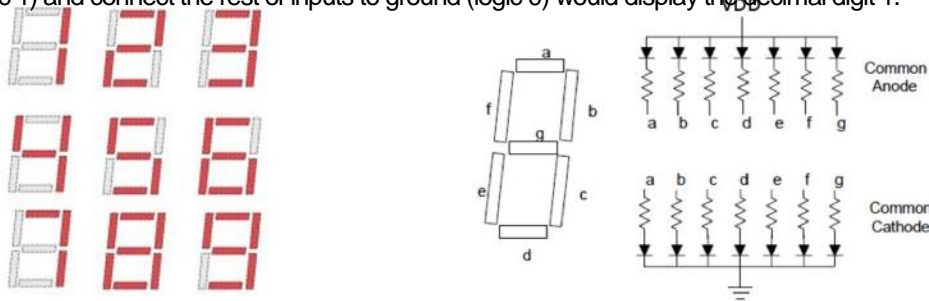

Figure 1
A seven-segment display displays decimal numbers. It consists of seven Light Emitting Diodes (LEDs), which are arranged to form different digits as shown in Figure 1. The seven segment displays come in two forms: Common Anode (CA) and Common Cathode (CC). A common anode 7-segment display has all of the anodes tied together while a common cathode 7-segment display has all the cathodes tied together. By turning ON and OFF LEDs, a decimal digit can be displayed. For example, for a common Cathode 7-segement display connecting b & c to the VCC (logic 1) and connect the rest of inputs to ground (logic 0) would display the decimal digit 1.